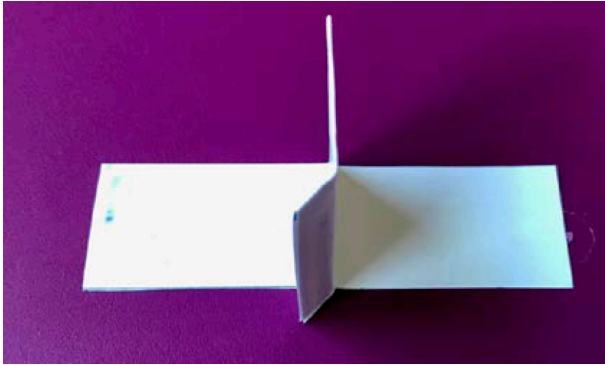

Figure 8: The rudder can bend from side to side.
- Cut 0.33 inch (0.8 cm) off the back of the two outer panels. The piece that is sticking out from the vertical stabilizer will be the rudder. See Figure 8.